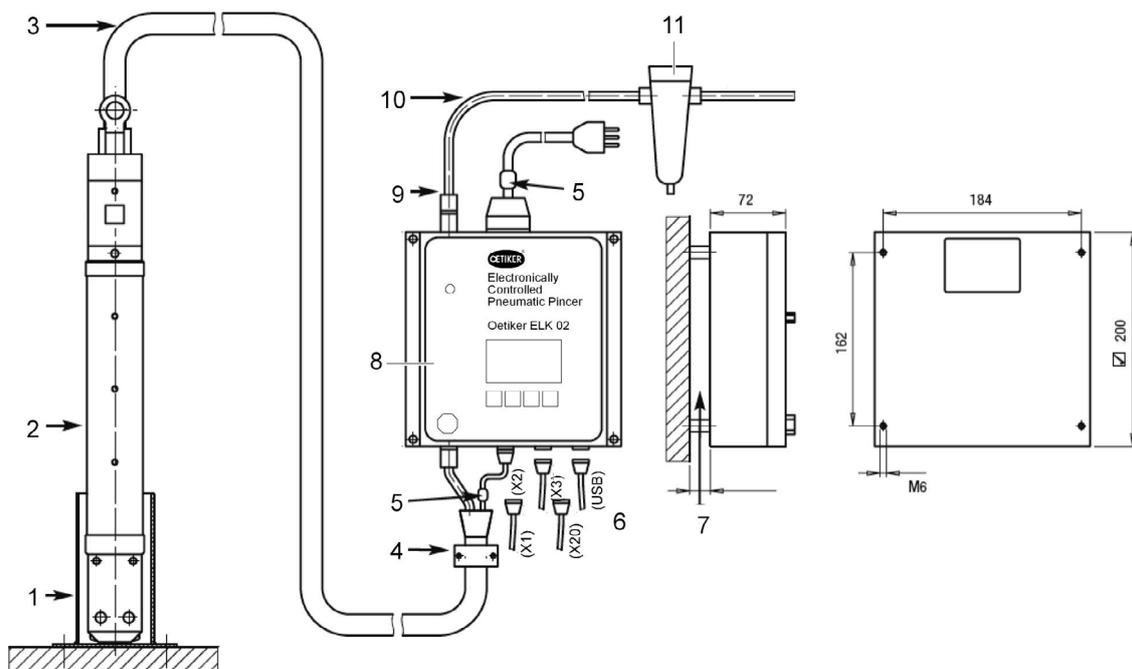

Fig. 10 Connecting the ELK 02
- To ensure an adequate circulation of air, there must be a gap of 10 mm between the control unit (Fig. 10/8) and the wall (Fig. 10/7).
- Do not alter the length of the corrugated hose (Fig. 10/3) (length 3 m, optionally 6 m or 12 m).
- ▶ When the pincer (Fig. 10/2) is not in use, store it in a (plastic) holder (Fig. 10/1), for example.
- ▶ Make sure that the bending radius of the corrugated hose (Fig. 10/3) is not less than 50 mm when in use.
1. Mount the control unit (Fig. 10/8) so that the display is clearly visible to the user.
2. Connect the corrugated hose (Fig. 10/3) to the pincer (Fig. 10/2) with a strain relief device (Fig. 10/4) (clip, item no. 13600035 or mounting plate, item no. 13600028).
3. Connect the corrugated hose (Fig. 10/3) to the control unit (Fig. 10/8).
4. Connect the PC etc. to the control unit (Fig. 10/6).
1. Compressed air pre-filter (Fig. 10/11) (item no. 05005930), suspended as shown in a suitable location by means of the mounting bracket supplied.
3. Connect the compressed air supply line (Fig. 10/10) to the compressed air connection (Fig. 10/9) on the control unit (Fig. 10/8) and to the compressed air filter (Fig. 10/11) (external diameter 8 mm, internal diameter 6 mm, suitable for pressure up to 10 bar).